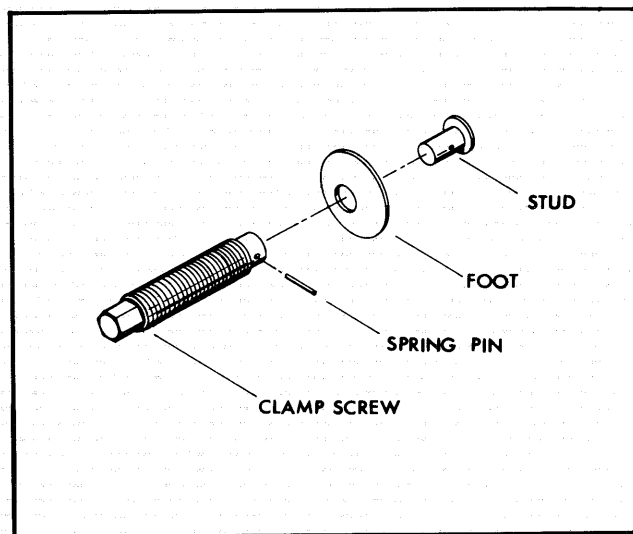

Figure 3A—Clamp Screw Assembly
- B. Place clamp screw foot on stud. Insert stud in bore of clamp screw aligning hole in stud with hole in clamp screw. See figure 3A.